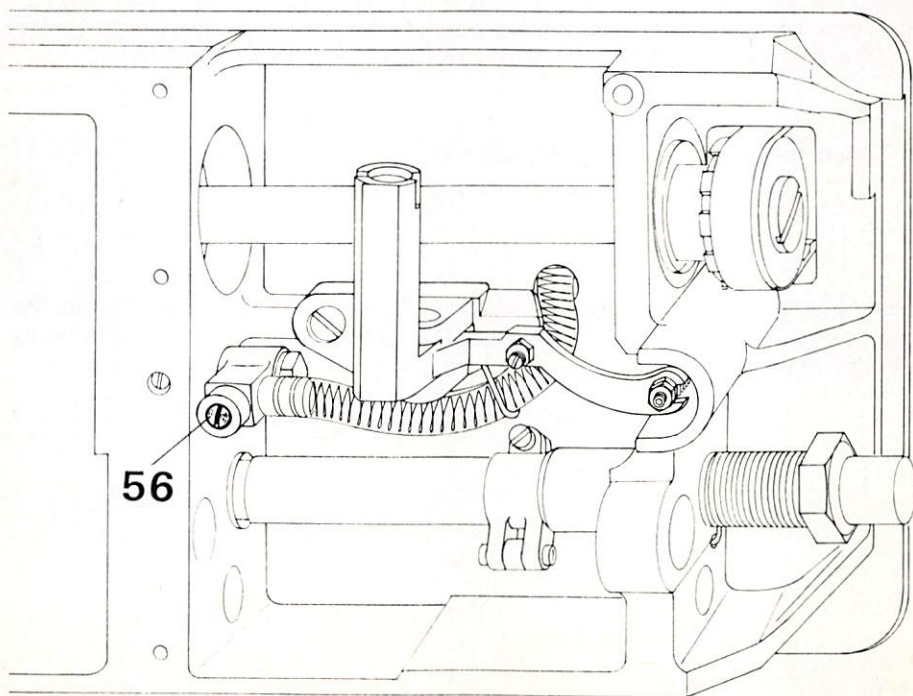

Fig. 30
29. Regulating the Hook Lubrication (Fig. 30)